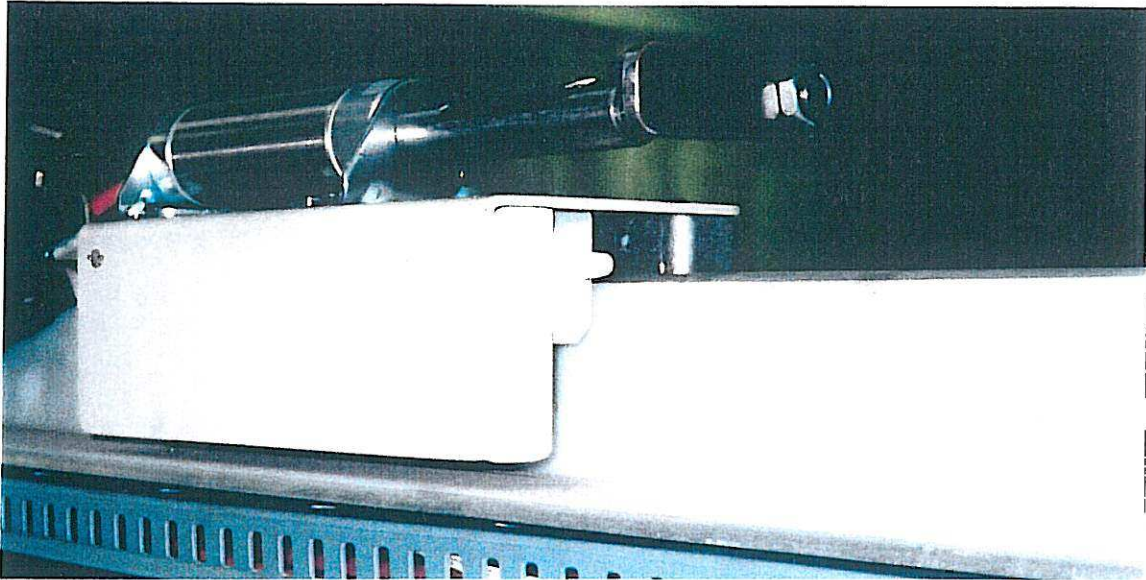

Figure 4.3
- H. Frame Lock Swithes: Located on the frame puhers of both the right and left Y-rails. See *Figure 4.3*. Signals to the machine the frame is in place.